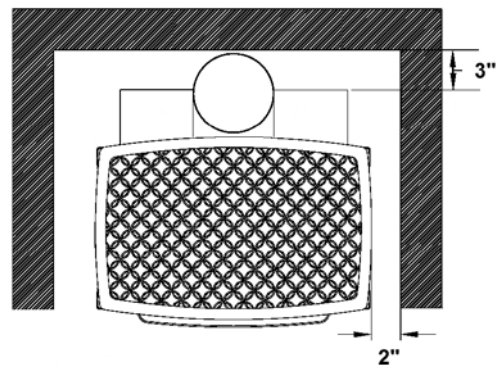

Figure 5 - Minimum Wall Clearances Horizontal Vent
- 🔥 Due to high surface temperatures, locate the unit out of traffic areas and away from furniture and draperies. Do not place clothing and other flammable material on or near the heater. When positioning the unit always maintain adequate clearances around air openings into the combustion chamber and allow for adequate ventilation. Minimum clearances to combustibles must be maintained as shown in Figures 5 - 8.